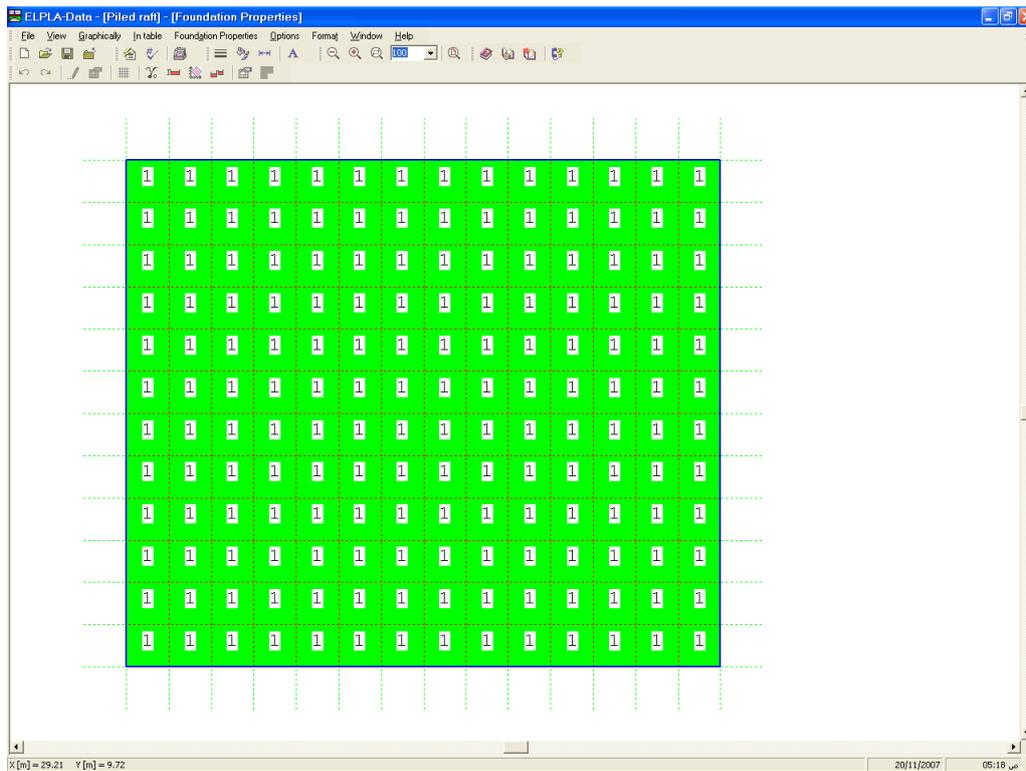
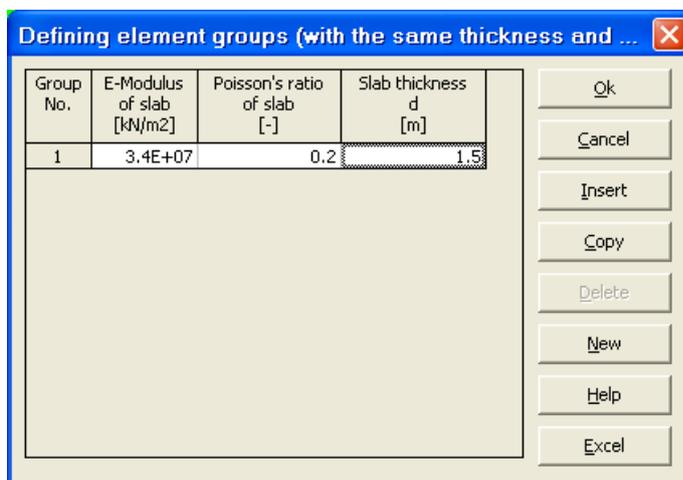
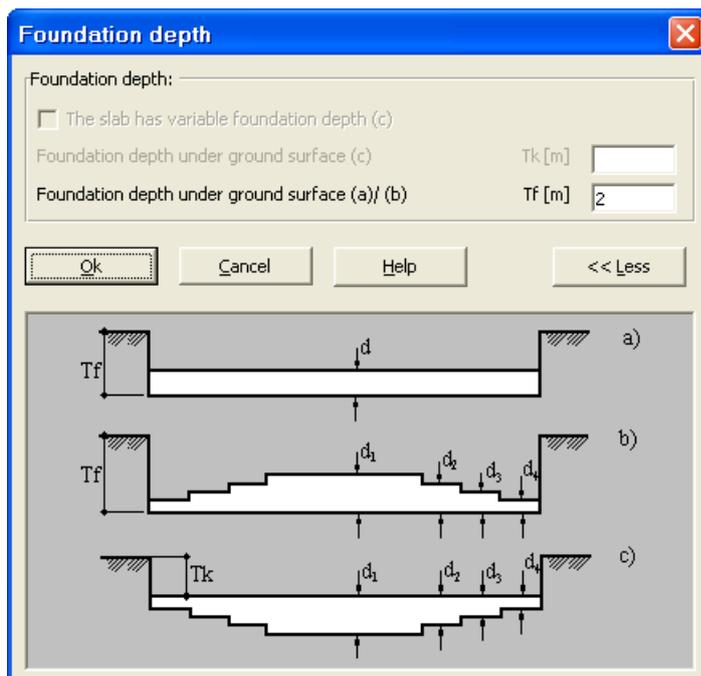

Figure 12-24 "Foundation properties" embedded program
Figure 12-25 "Defining element groups" list box
Figure 12-27 "Foundation depth" dialog box
To define the foundation properties, choose "Foundation properties" command from "Data" menu of *ELPLA-Data*. The following embedded program in Figure 12-24 appears with default foundation properties. The data of foundation properties for the current example, which are required to define, are foundation material and foundation thickness. Any other data corresponding to foundation properties in the program menus are not required. Therefore, the user can take these data from the default foundation properties.
- Choose "Element groups" command from "In Table" menu in the window of Figure 12-24. The following list box in Figure 12-25 with default data appears. To enter or modify a value in this list box, type that value in the corresponding cell then press "Enter" key. In the list box of Figure 12-25, enter E-Modulus of the foundation, *Poisson's* ratio of the foundation and foundation thickness
- Choose "Unit weight of the foundation" command from "Foundation properties" menu in the window of Figure 12-24. The following dialog box in Figure 12-26 with a default unit weight of 25 [kN/m³] appears. Let the default value as written in the edit box "Unit weight of the foundation"
- Choose "Foundation depth" command from "Foundation properties" menu in the window of Figure 12-24. The following dialog box in Figure 12-27 appears
- Choose "Save foundation properties" command from "File" menu in Figure 12-24 to save the foundation properties
- Choose "Close foundation properties" command from "File" menu in Figure 12-24 to close the "Foundation properties" embedded program and to return to the main window of *ELPLA-Data*